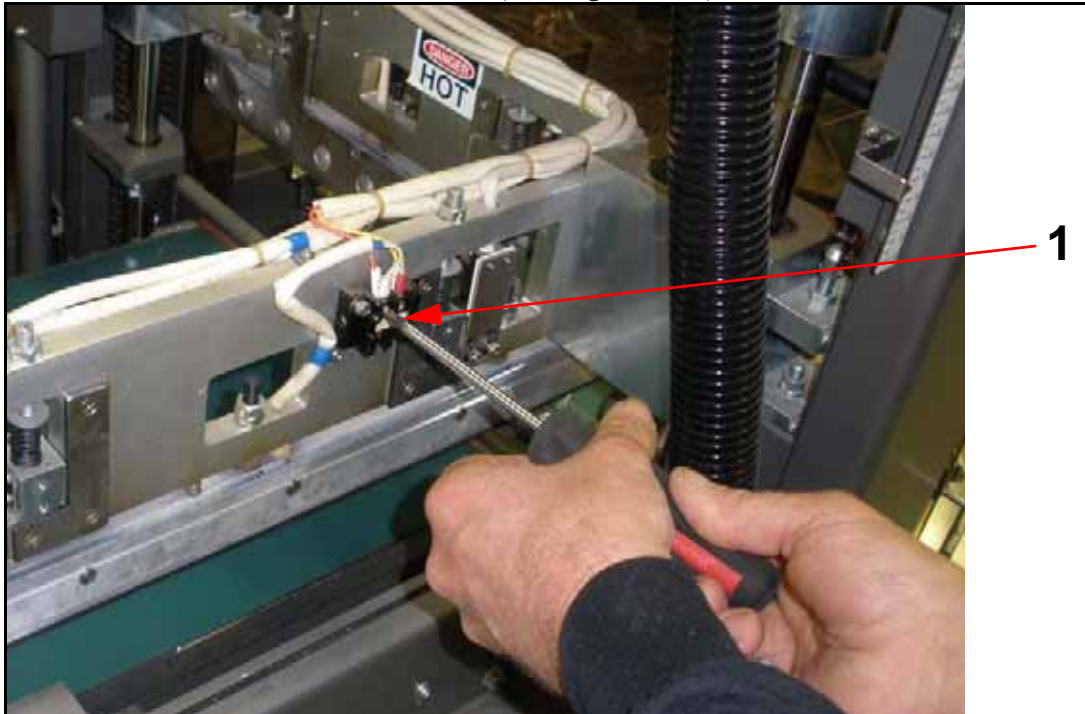

Figure 7-28. Thermocouple Terminals
- 3 Loosen two screws (1 in Figure 7-28) and remove terminals.